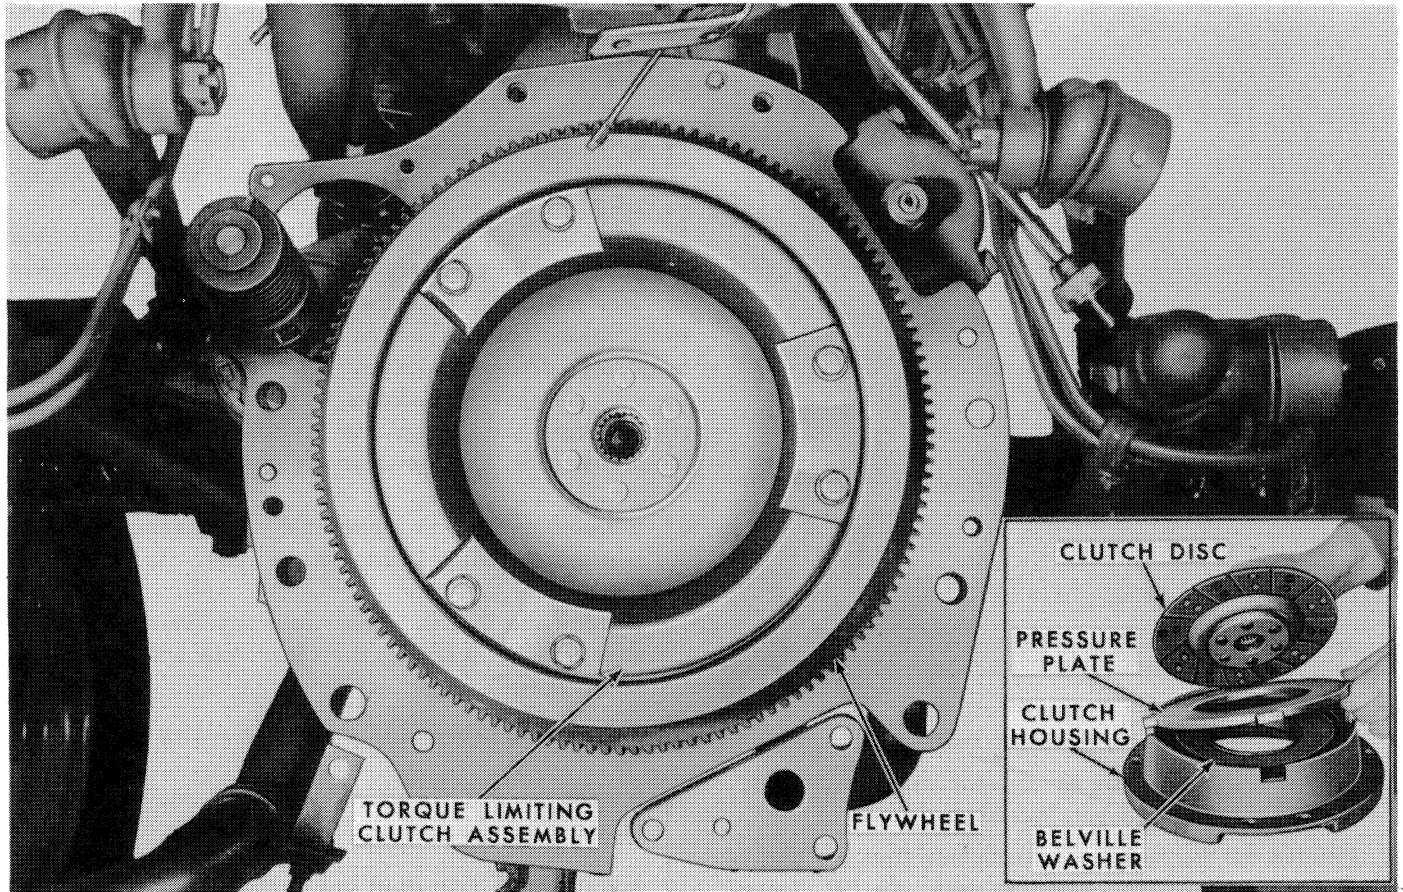

Figure 68
1. Remove the six bolts securing the clutch housing to the engine flywheel while, at the same time, holding the housing so it does not drop from the flywheel. See Figure 68.